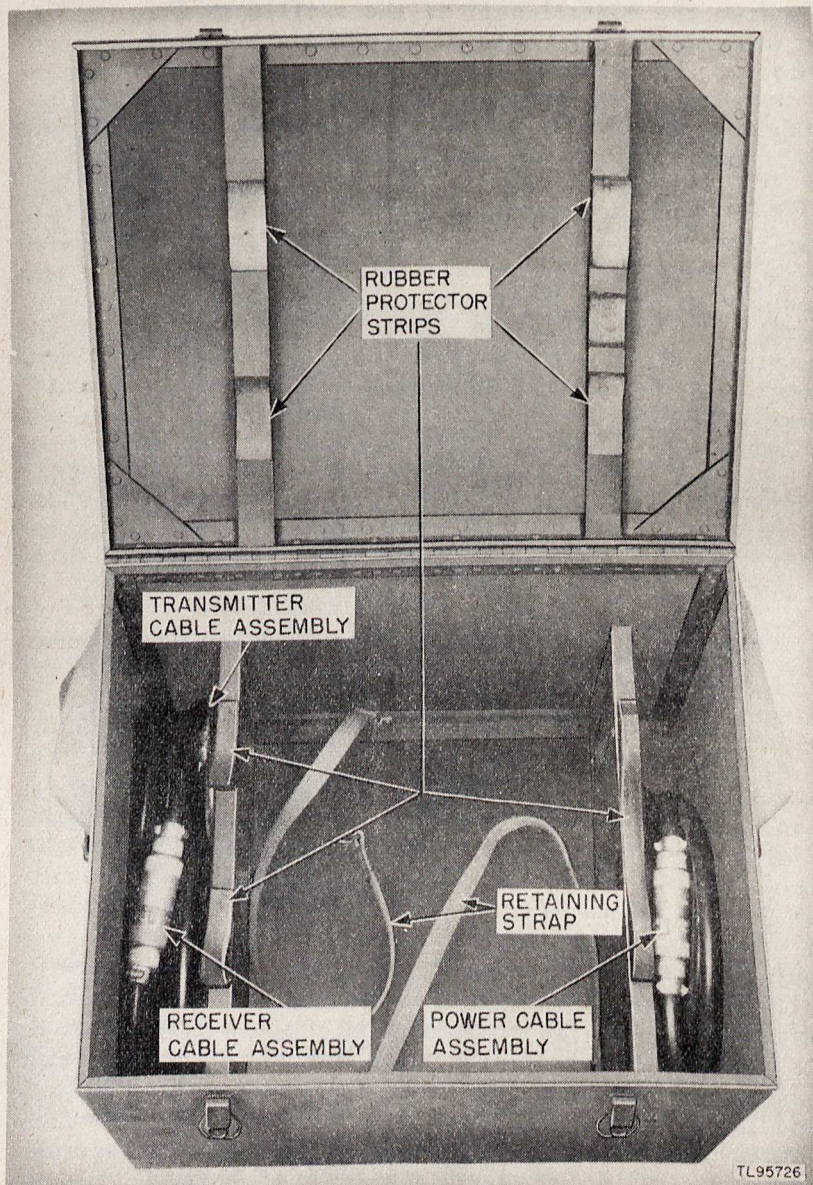

Figure 6. Carrying case, optical unit.
g. Carrying Case (fig. 6). The carrying case for the optical unit is made of reinforced sheet metal and is approximately 17-1/2 inches long, 14-1/2 inches wide, and 14 inches deep. Two partitions in the lower part of the case serve as mountings for the optical unit and the space formed at either end is used to store the necessary cables. A web strap fastened to the bottom of the case holds the unit in place during transportation. Two strips mounted in the hinged lid are padded with soft rubber and help to keep the unit in place when the lid is closed. A web carrying strap approximately 1-1/4 inches wide and 8 feet long is provided for carrying purposes.